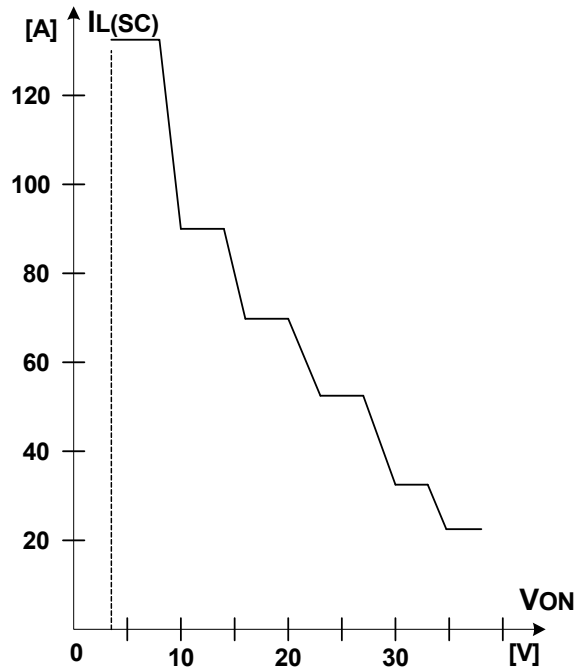

**Figure 2b. Switching an inductive load**
15) See also Figure 2b on page 14.